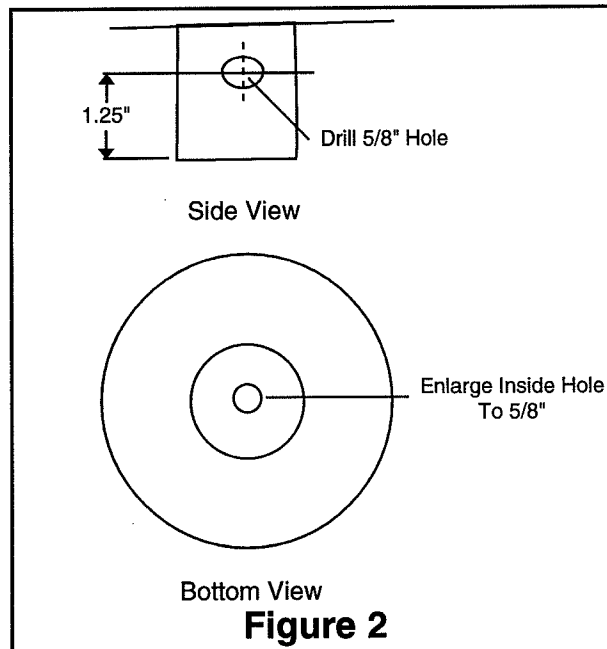

Figure 2
4. Measure up 1.25" from bottom of jounce bumper support center punch and drill a 5/8" hole through one side for air line routing (Figure 2). Insert the 3/8" grommet provided into the drilled 5/8" hole (Figure 2). Also enlarge the hole on inside from the bottom of the jounce bumper support to 5/8" (Figure 2).